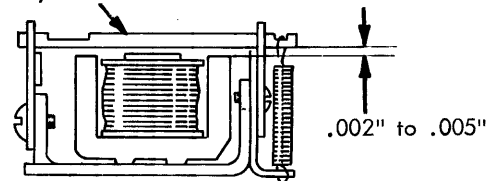

FIGURE 34.2 Pivot Plate
2. Pivot Plate (Late Style) Fig. 34.2 - Adjust for a clearance of .002" to .005" between the yoke and armatures with the armatures manually attracted. Measure clearance of the outside armatures (T2 & R5).